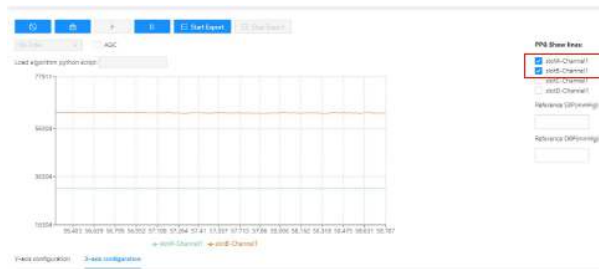

Figure 39. Select Slot and Channel Waveforms
4. To view the waveforms of different slots and channels, select the check boxes under **PPG Show lines** (see Figure 39). Figure 39 shows **slotA-Channel1** and **slotB-Channel1** selected.